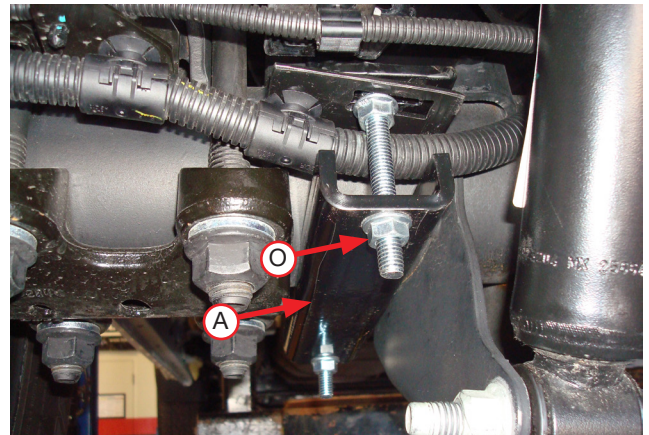

Fig. 17
4. Install the remaining 3/8" carriage bolts on the front side of the lower brackets and install the clamp bars (A) over the carriage bolts. Secure the clamp bar with the 3/8" serrated lock nuts (O) (Fig. 17). Align the clamp bar so that it is somewhat centered between the shock bracket and leaf spring retainer. Torque clamp bar hardware evenly to 16 lb.-ft. (22Nm). Repeat for both sides.